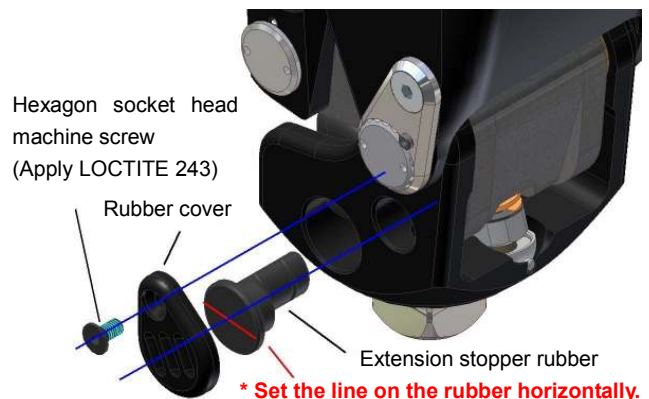

Fig. 19 Replacing the Extension Stopper Rubber
3. Insert the new extension stopper rubber in the direction shown in Fig. 19. It can be inserted easily if the knee joint is in the stance-flexion state.